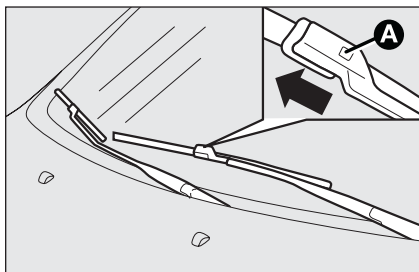

fig. 16
- press tab **A**-fig. 16 of the coupling spring and remove the blade to be replaced from the arm;